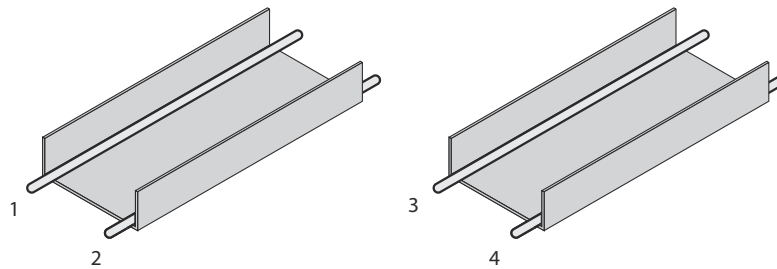
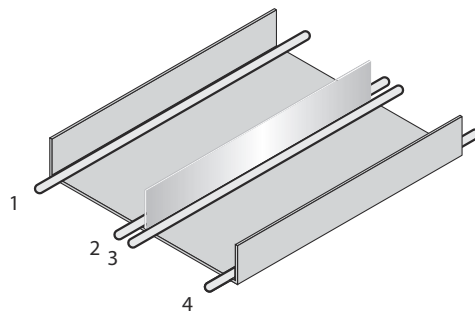

Figure 4: Ideal laying - Place cables in different cable channels
Figure 5: Alternative laying - Separate cables with metallic separators
- ▶ Cables in groups 1, 2 and 3, 4 must be routed in different cable channels or metallic separators must be used, see figure 4 and see figure 5. This applies particularly where cables of devices with a high level of radiated emission, such as frequency converters, are laid parallel to sensor cables.